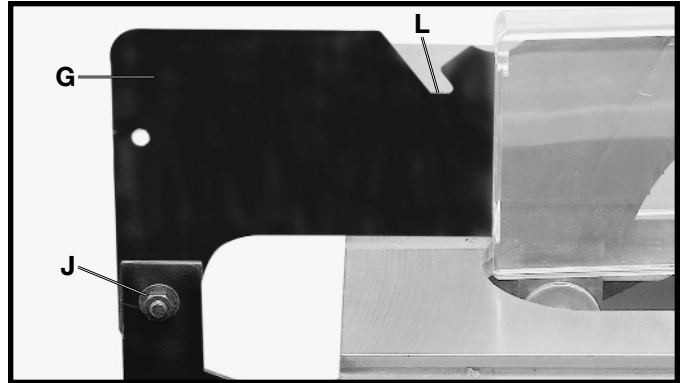
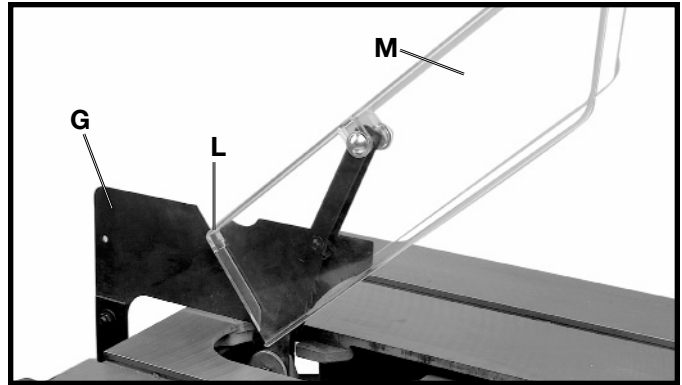

Fig. 34
Fig. 35
9. Fasten the rear of the blade guard and splitter bracket assembly (G) Fig. 34, to the rear splitter mounting bracket. Align the hole in the blade guard and splitter bracket with the hole in the rear splitter mounting bracket. Insert a 5/16-18x5/8" carriage head screw through the hole (J) in the blade guard and splitter assembly and through the hole in the rear splitter mounting bracket, place a 5/16" flat washer on the carriage head screw, and fasten with a 5/16-18 hex nut, and tighten securely. **IMPORTANT:** The splitter (G) Fig. 34, has a notch (L) cut in the top edge as shown. This feature will enable the blade guard to stay in the raised position to make blade changing easier. Raise the front of blade guard (M) Fig. 35, until the rear edge of the blade guard slips into notch (L) of splitter (G); the blade guard will stay in this position.